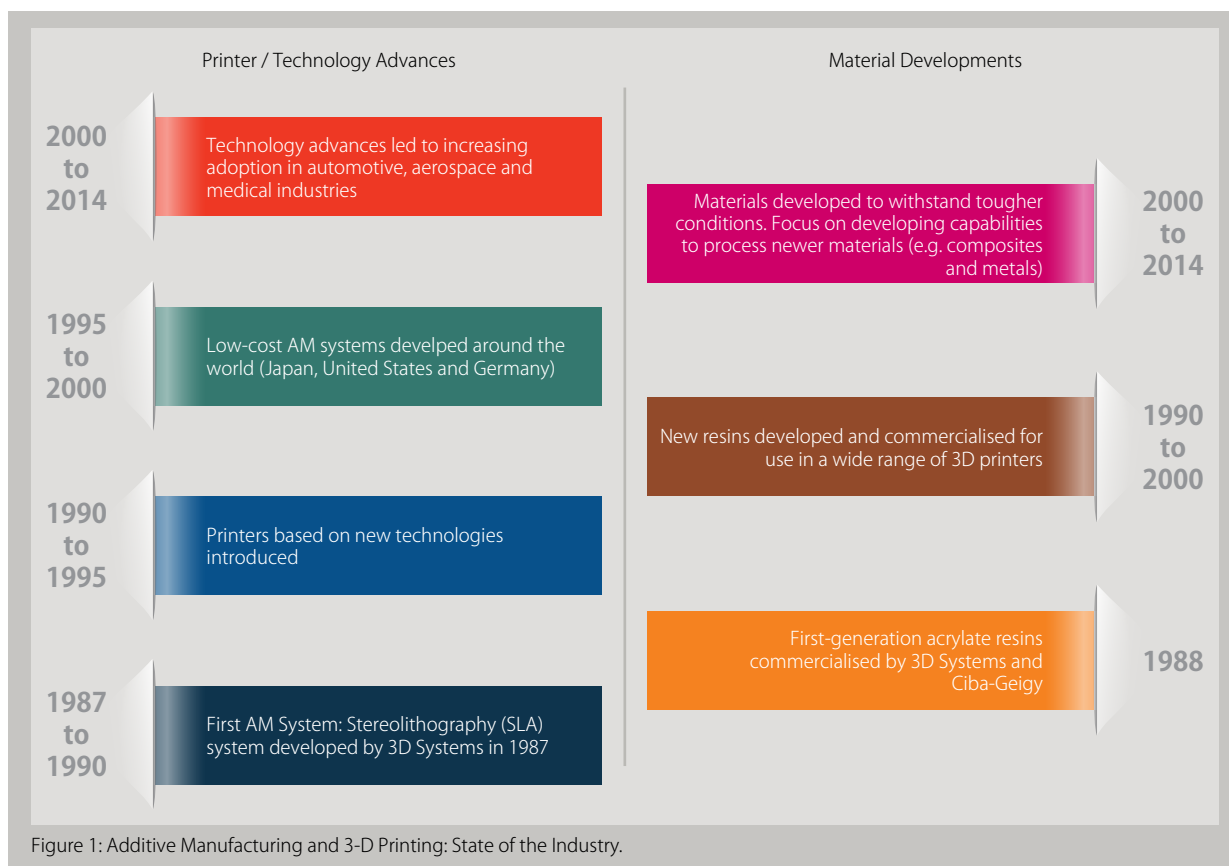

Figure 1: Additive Manufacturing and 3-D Printing: State of the Industry.
One of the disruptive technologies to emerge in recent years in the plastics processing sector is the 3-D printing technology, also called as Additive Manufacturing (AM). This technology is growing at a very rapid pace and is termed as the first major revolution in manufacturing since the 'assembly line' concept that garnered the limelight in the late 19th century. Simply put, 3-D printing is nothing but 2-D printing performed repetitively. This technology has grown from the basic concepts of ink jet printing and stereo lithography. The process has made great strides in the thirty years since it was first reported1 (Refer Figure 1).